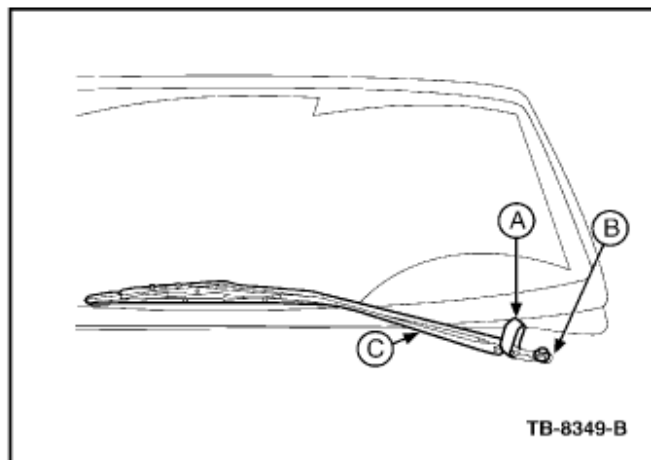

Figure 3
1. Remove the wiper pivot arm. (Figure 3)